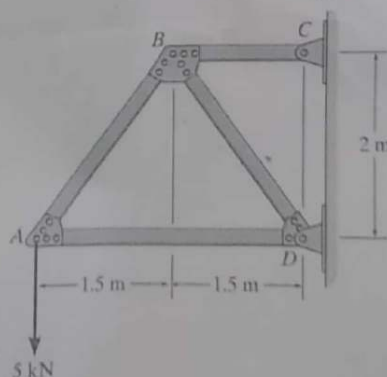

Figure-03
2. a). Calculate the vertical displacement of joint A of the truss shown in Figure-03 using the method of virtual work. Each bar is made of steel and has a cross-sectional area of 600 mm² and E= 200 GPa. [06]